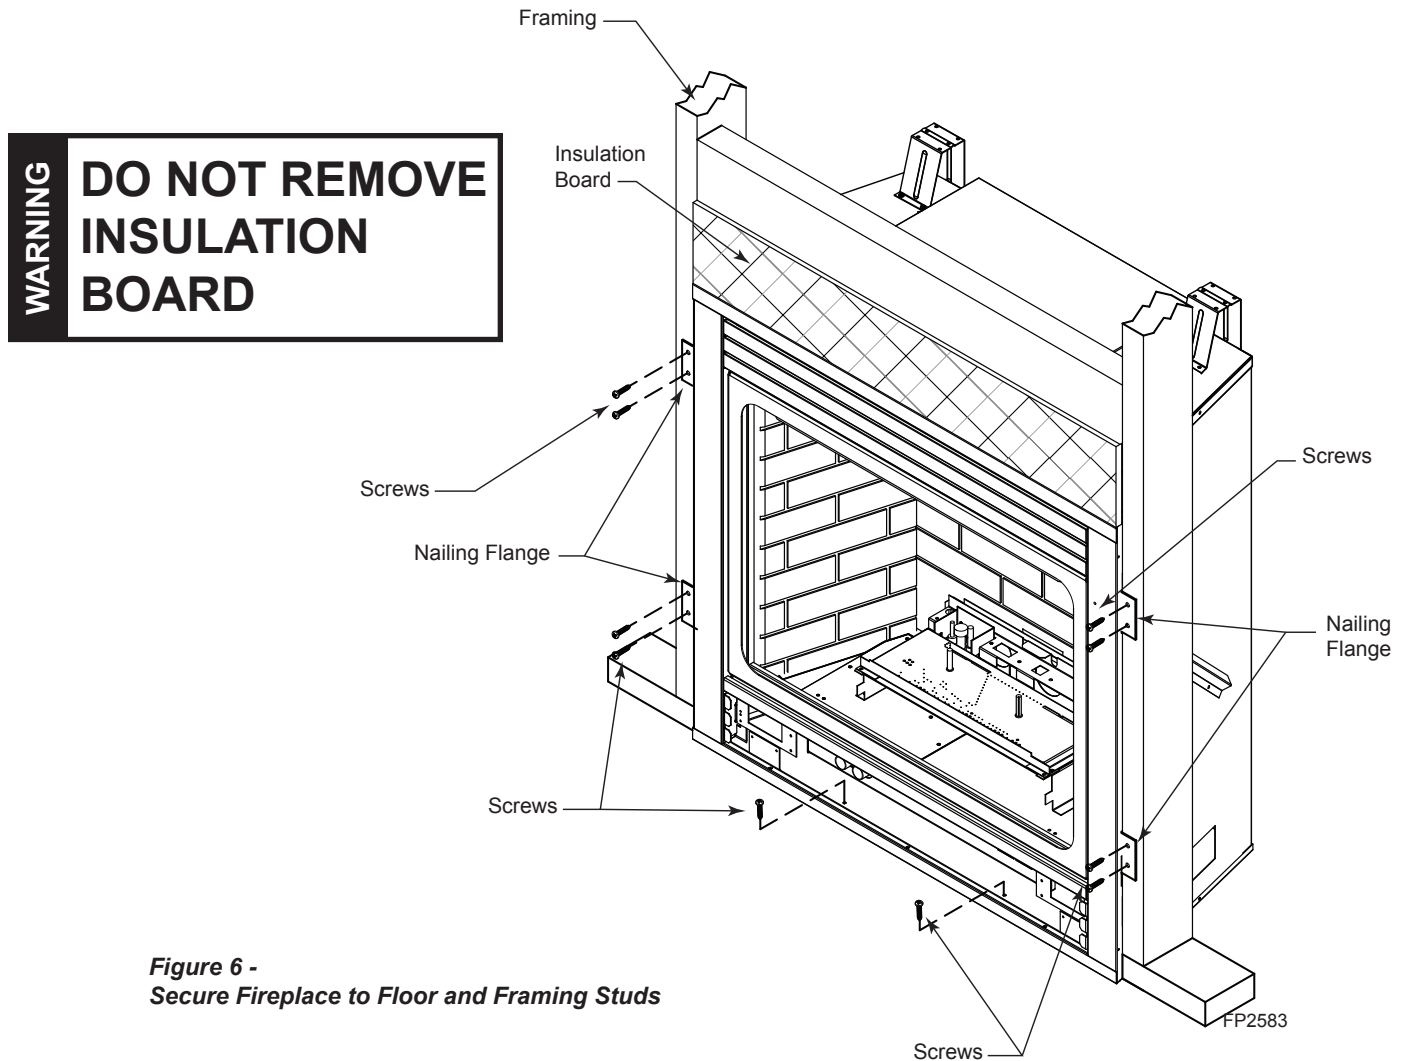

Figure 6 -
The fireplace must be secured to the floor and/or to framing studs as shown in *Figure 6*. Use two (2) wood screws or masonry/ concrete screws to secure fireplace to the floor. Use four (4) screws to attach fireplace to framing. The side nailing flanges are 1/2" or 5/8" to accommodate different wall thickness.